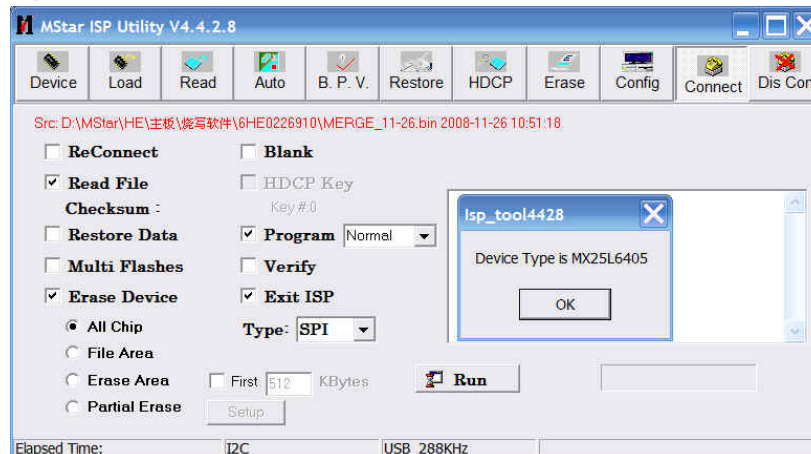

Fig. 3 Device **MX25L64** successful connection
- 3) Select menu “**Connect**”, a dialog “**Device Type is MX25L64**” will be displayed as **Fig. 3**, that is to say connecting is successful;